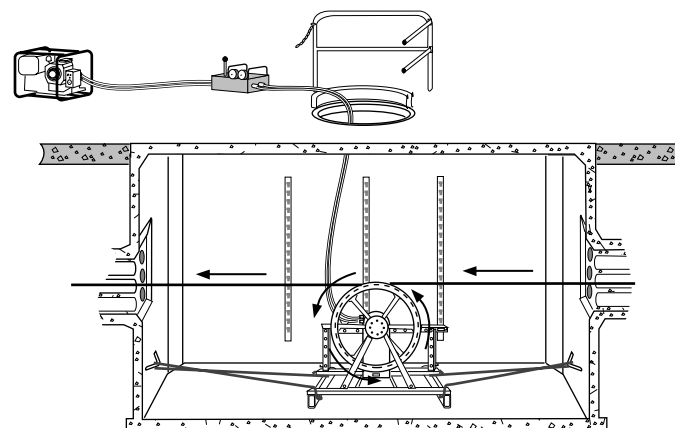

Figure 11 Intermediate assist winch
**5.3** Longer continuous pulls can be accomplished by hand assisting the cable or by setting up intermediate-assist winches at bends and at cable access points (Figure 11). Depending upon the type of winch and/or procedure used, the cable may or may not emerge from the manhole at intermediate-assist points.